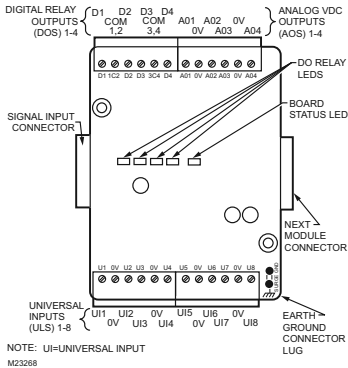

Fig. 3. IO-16-H Wiring Terminal Locations.
See Fig. 3 to locate connectors and other components on the controller.
The IO-16-H module provides 8 universal inputs supporting analog inputs (temperature, resistance, voltage and current) and digital inputs (contact closure, pulse count) and 8 outputs: 4 relay (24 Vac/cd, 0.5A max.) outputs and 4 analog outputs (0-10 Vdc). Wiring terminal positions are shown in Fig. 3, along with LED locations.
An LED status indicator for each relay (D1-D4) is located on the board (Refer to Fig. 3), and also visible through the cover. Under normal operation, each digital status LED indicates activity as follows:
NOTE: Any time a powered WEB-I/O module's status LED is not lit, all outputs are in "failsafe" state (all relay outputs **Off**, and all AOs are at a 0-volt level). Refer to Fig. 3 for location of the IO-16-H status LED.
Step 1	Apply power to the WEB-201 or WEB-600 controller (e.g., NPB-PWR-H or NPB-WPM-US). The IO-16-H board status LED will initially be Off (Fig 3). Allow the controller sufficient time to boot (at least 2 minutes).